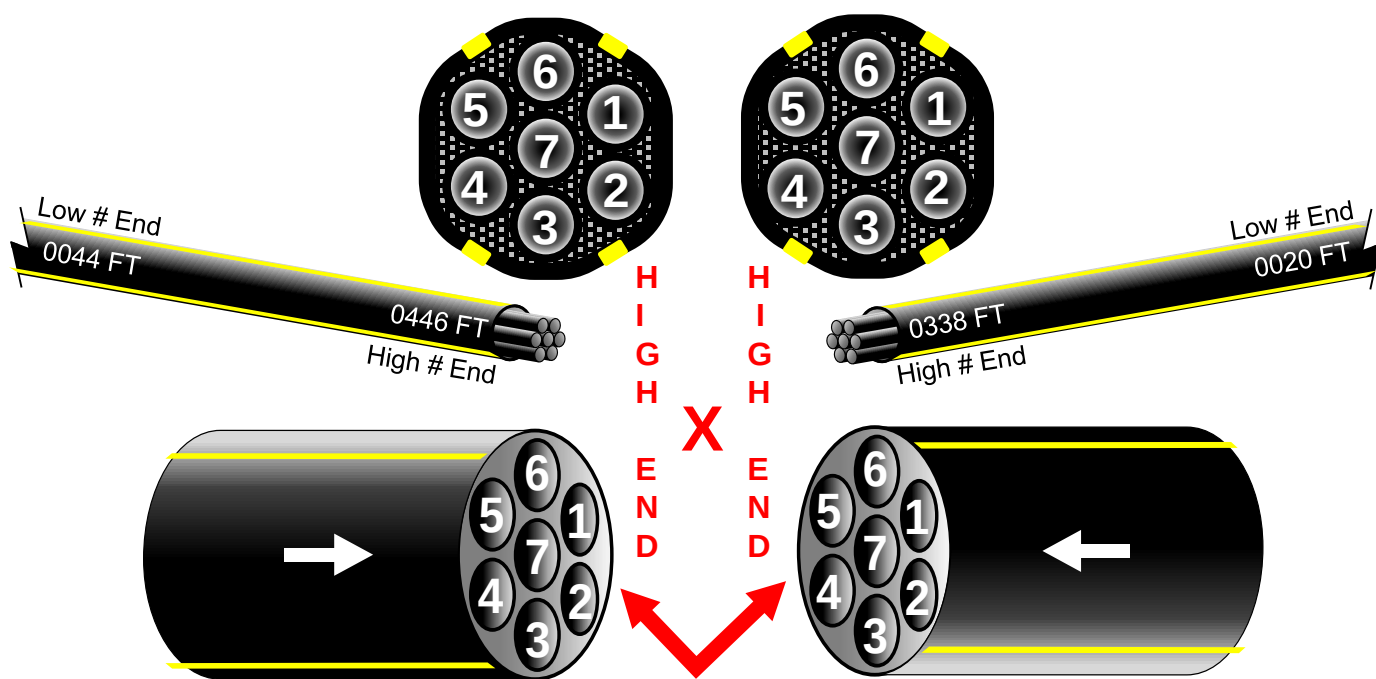

Figure 10
12.5 If the Low # End of one Tube Cable will mate to the Low # End of the other Tube Cable, when coupled, the tubes will be crossed or twisted and that condition is not desired. Same situation exists with a High # End mating to another High # End. (A Low-to-Low or High-to-High condition is bad.) **See Fig. 10.**